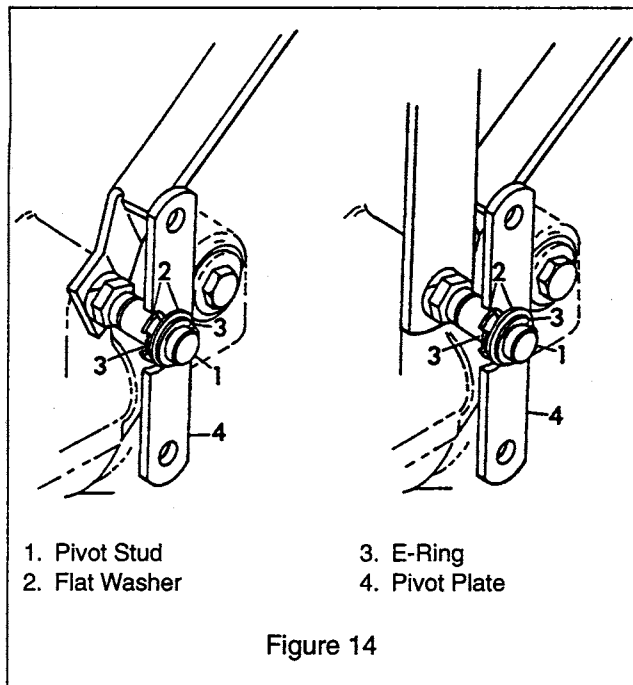

Figure 14
7. Remove the bolt which attaches the left handlebar support to the advance casting. Install the pivot stud in the same location. See Figure 14.